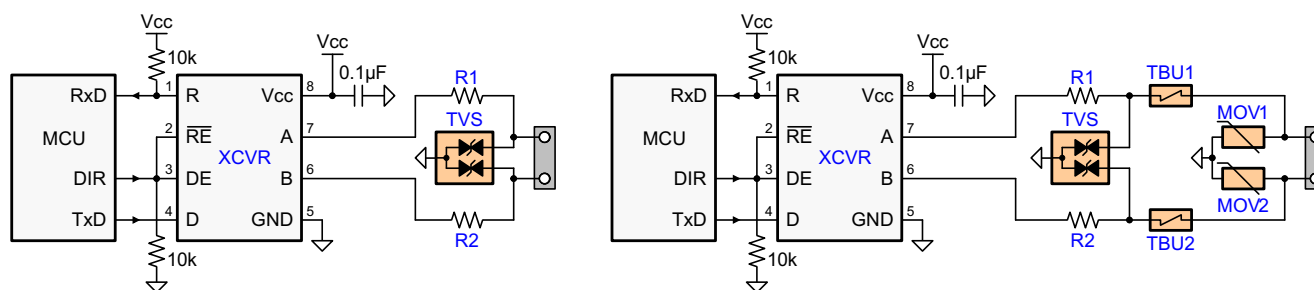

Figure 22. Transient Protections against ESD, EFT, and Surge Transients
To protect bus nodes against high-energy transients, the implementation of external transient protection devices is necessary. Figure 22 suggests two circuits that provide protection against light and heavy surge transients, in addition to ESD and EFT transients. Table 4 presents the associated bill of materials.
While the transient protection is similar to the one in Figure 22 (left circuit), an additional high-voltage capacitor is used to divert transient energy from the floating RS-485 common further toward Protective Earth (PE) ground. This is necessary as noise transients on the bus are usually referred to Earth potential.